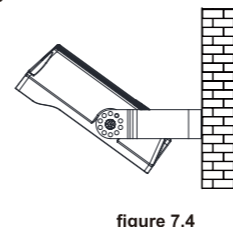

figure 7.4
Step 3: Loosen screw; Adjust fixture angles as per actual demands and tighten screws later (figure 7.4).Tips:Angles of the fixture is adjustable.